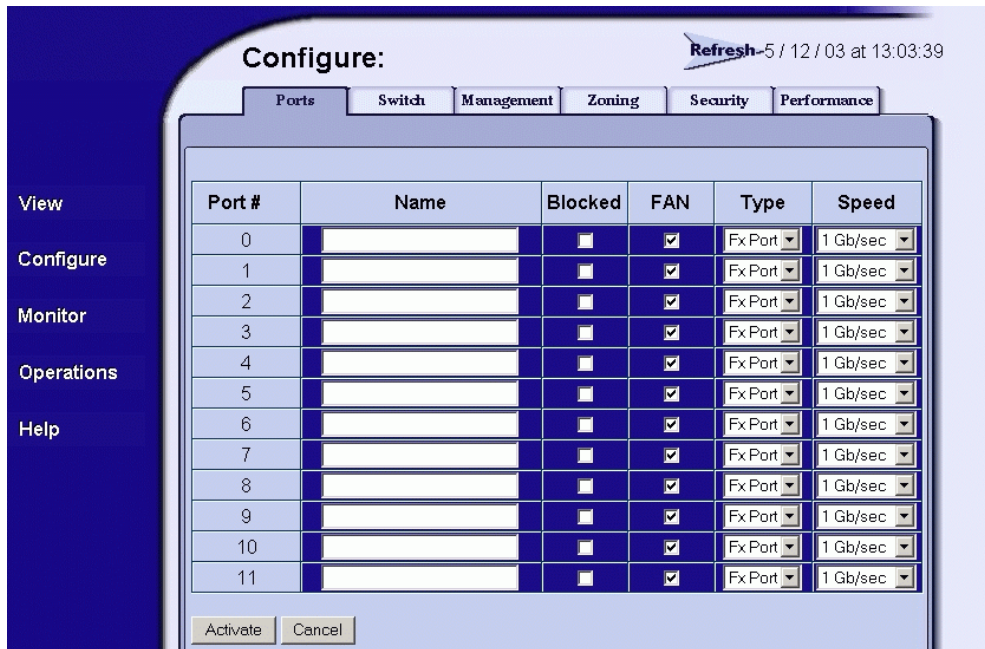

Figure 4-19 Configure Panel (Ports Page)
1. When the SANpilot interface opens, the *View* panel and *Switch* page appear as the default. At the *View* panel, select the *Configure* option at the left side of the panel. The *Configure* panel opens with the *Ports* page displayed (Figure 4-19).
1. When the SANpilot interface opens, the *View* panel and *Switch* page appear as the default. At the *View* panel, select the *Configure* option at the left side of the panel. The *Configure* panel opens with the *Ports* page displayed (Figure 4-19 on page 4-27).